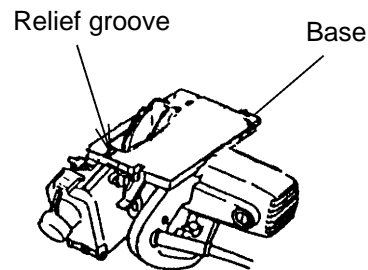

Fig. 7
- A relief groove is provided on the bottom of the base to prevent snagging during operation (Fig. 7).